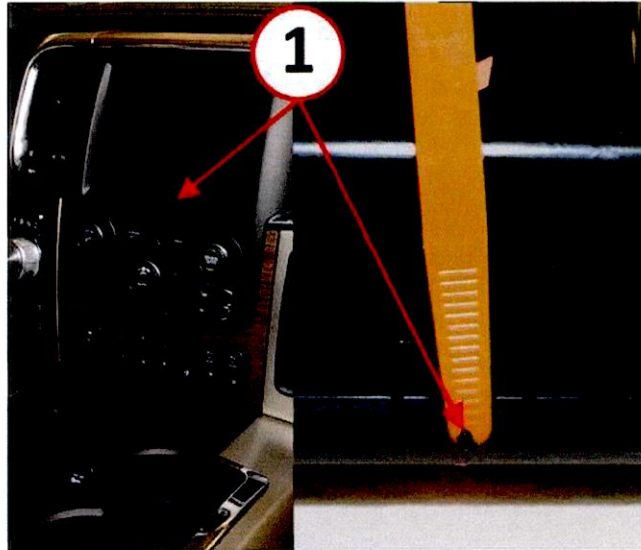

Fig. 1 Injection Molding Bump Location
2. In location shown, inspect for a plastic injection molding flash bump on the backside of the integrated center stack bezel which may contact the touch screen when installed (Fig. 1).